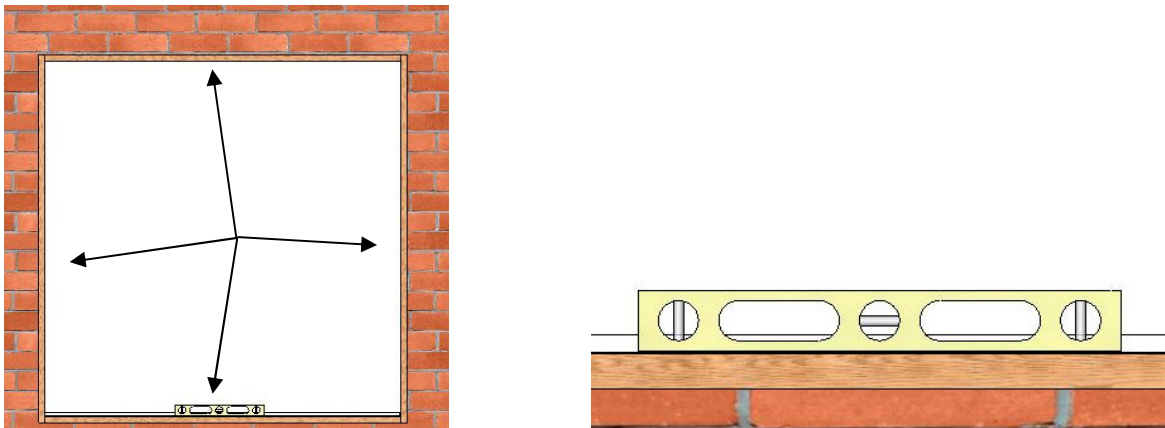

Figure 1:
- Verify the opening is plumb and level (Figure 1).